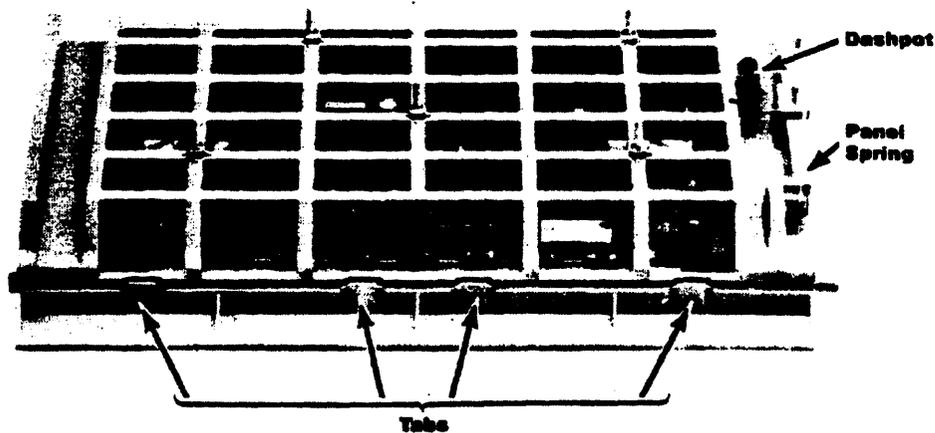

Figure 6-26. Display-Bezel Tabs and Panel Spring
12. Using a flat-blade screwdriver, gently disengage the four tabs along the top of the bezel starting at either end. Press on the bezel as you go to keep the tabs disengaged. See figures 6-26 and 6-27.
Before replacing the display assembly, see figures 6-26, 6-28a, and 6-28b, and identify the following: